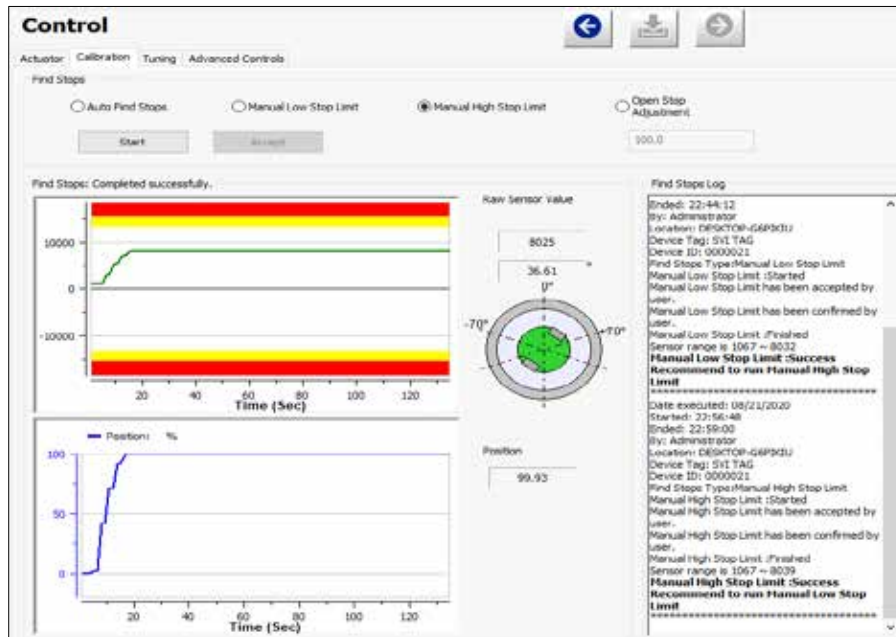

Figure 54 Manual High Stop Limits Results: Succeeded
6. Click , the *Find Stops Log* lists detected values, test results appears (Figure 54) and if the test fails a list of reasons.